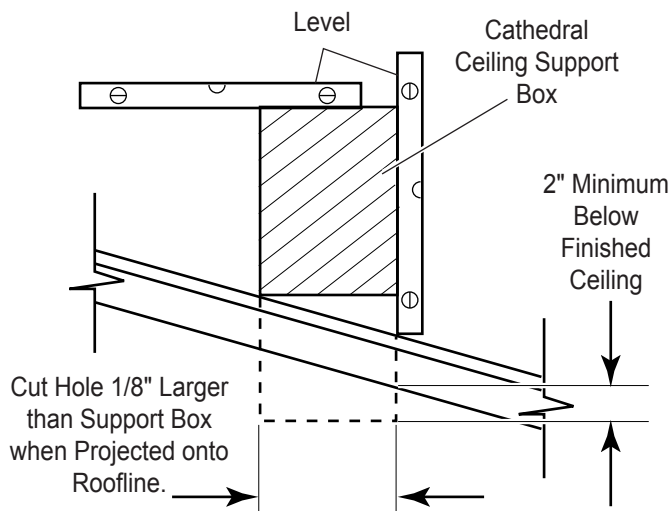

Figure 30 - Cathedral Ceiling Support Box Installation
2. Cut the hole  $\frac{1}{8}$ " larger than the support box outline. See Figure 30.
3. Lower the support box through the hole in the roof until the bottom of the box extends at least 2" (mm) below the ceiling. See Figure 30. Align the support box vertically and horizontally using a level. Temporarily tack the support box in place through the inside walls and into the roof sheathing.